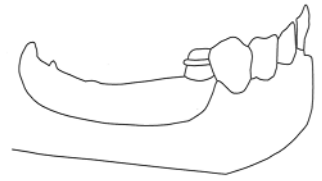

Fig. 4
6. Seat the casting on the master model, snap the black fabrication male into the female eyelet and block out the area gingival to the attachment. The black male will hold the partial denture framework at the upper limit of the attachment's 0.4mm vertical resiliency. Complete the preparation of the model for duplication in refractory material (relieve the saddles, block out undesirable under-cuts, etc.). Take an impression and pour the refractory model for the RPD framework (Fig. 4).